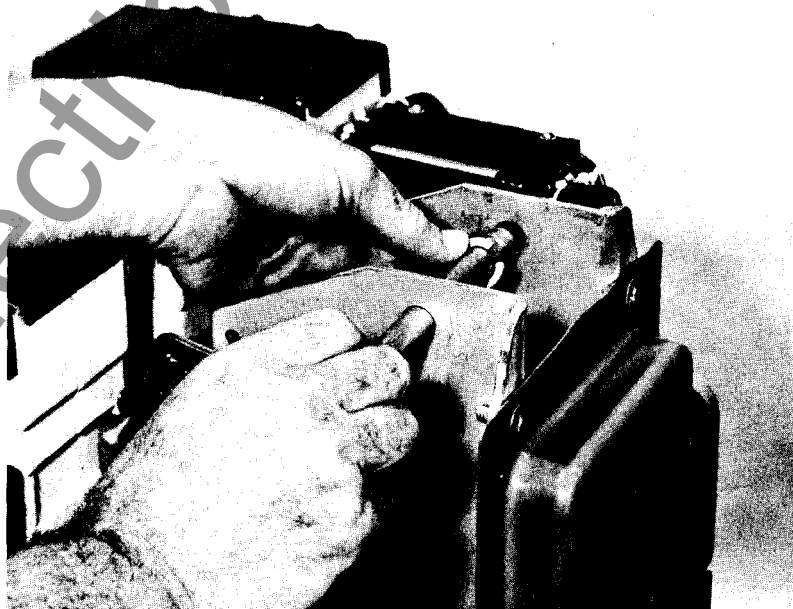

FIG. 12
9. Slide a new spring pin through the left hole of the mechanism frame, and slip a new squeeze ring on the pin, (see figure 12). Continue to slide the pin through the right hole.